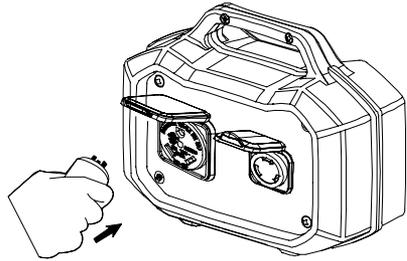

Fig. 5
7. Connect load to parallel kit (Fig. 5). The load will now have power.